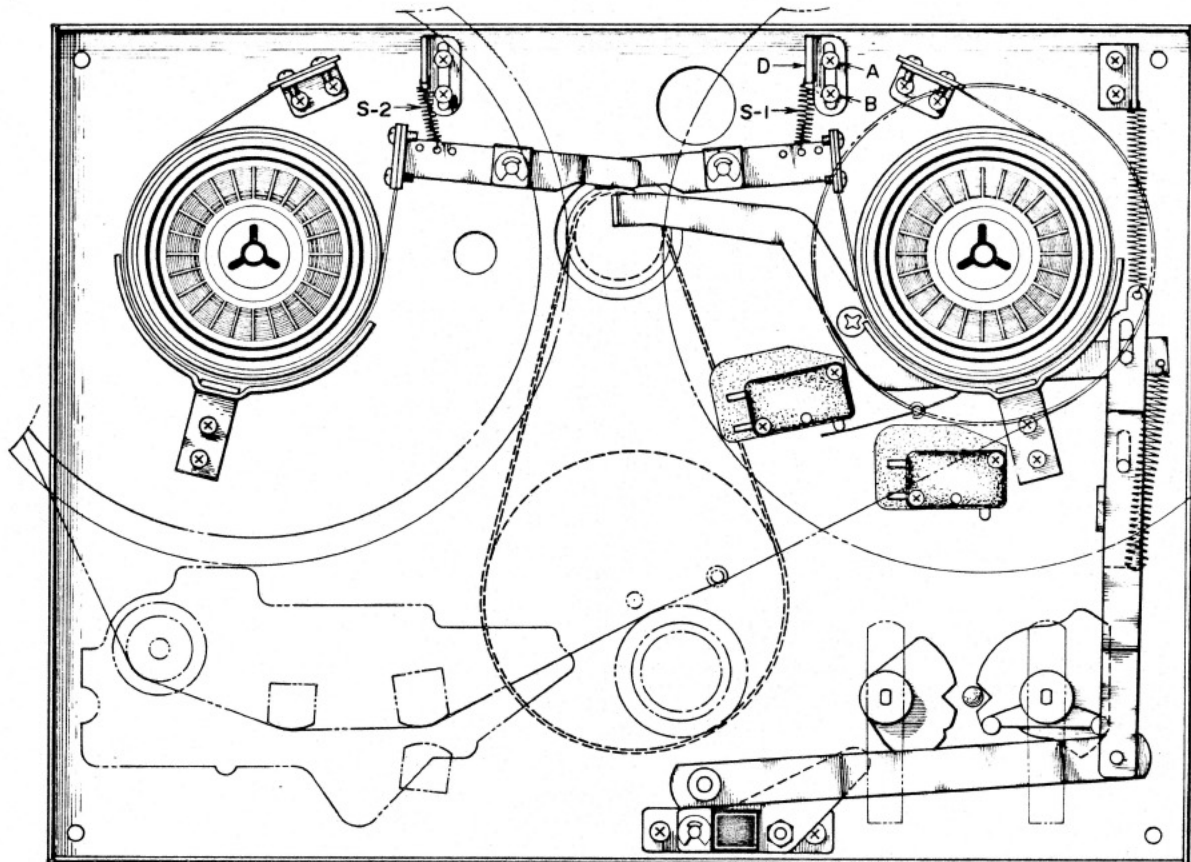

Fig. 6-5
To regulate tension, change the position of the suspended springs ( $S_1$  and  $S_2$  in Fig. 6-5) or loosen screws (A) (B) and regulate position of the spring suspension metal fitting (D).